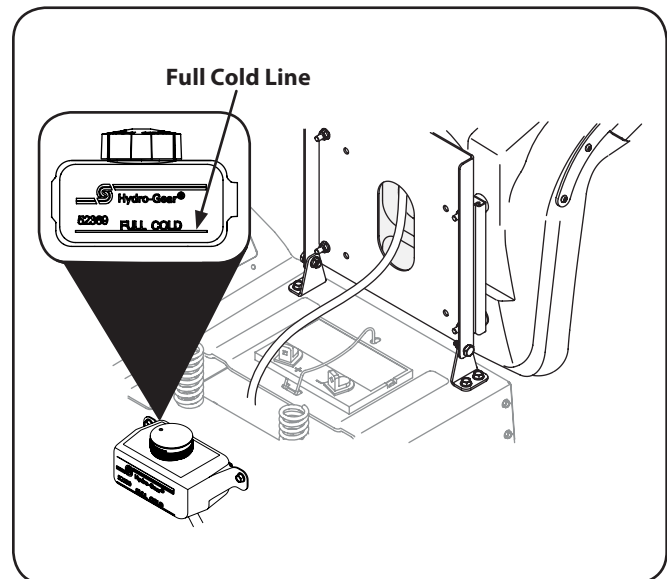

Figure 6-3
1. Pivot the operator's seat forward and clean the reservoir cap and the area around the cap to prevent debris from contaminating the transmission oil. See Fig. 6-3.
2. Turn the reservoir cap counterclockwise to re-move, then check the oil level in the reservoir. Oil should be visible at the bottom of the cup, but the oil level must NOT be above the "FULL COLD" line. See Fig. 6-3. DO NOT FILL THE RESERVOIR.